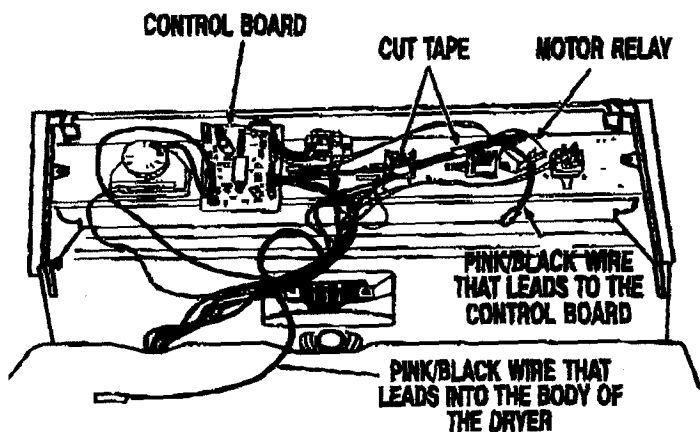

FIGURE 1
4. Flip console so the backside is facing you. See Figure 1.
6. Disconnect the four (4) wires, two (2) pink/black and two (2) light blue, from the defective AC coil motor relay, part number 697812, and remove motor relay.
8. Cut two (2) pieces of tape on main harness by motor relay. See Figure 1.